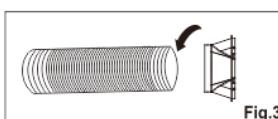

Fig.3
- 2 .Extend the other side of the hose and screw it to the hose outlet [Fig.3].